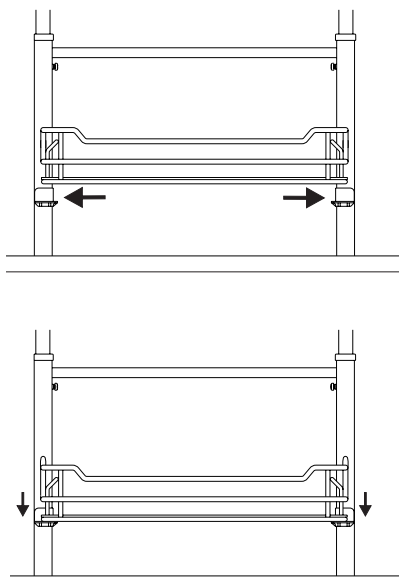

fig. 16
18) Install top basket first. Position it inside the frame and hold it to the top. Snap plastic basket clips (#5) onto the frame as shown in figure 16. Then slide the basket down on the clips.